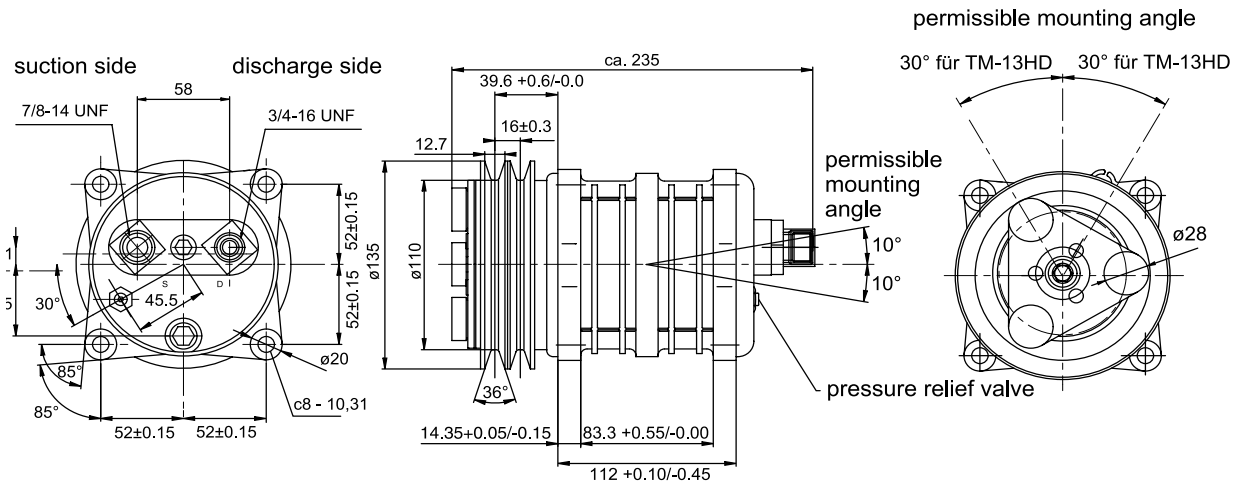

Fig. 4.2
Fig. 4.2 shows the dimensions and mounting points for the compressor.
- Sufficiently secure attachment of the compressor making use of a minimum of four flange holes, with a tension adjustment device for the V-belt (see Fig. 4.2).